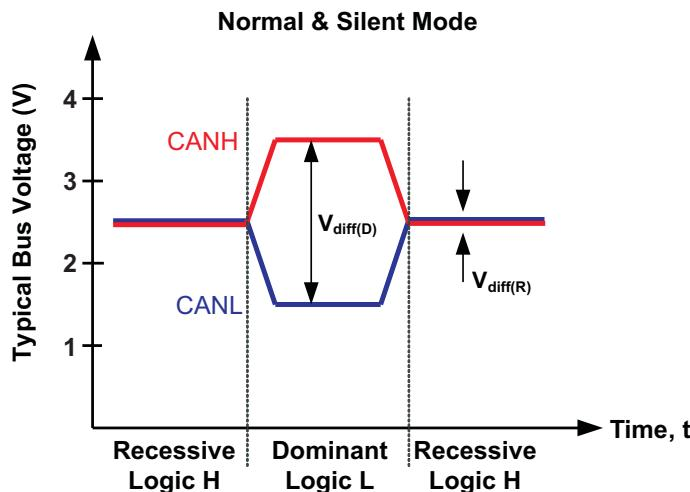
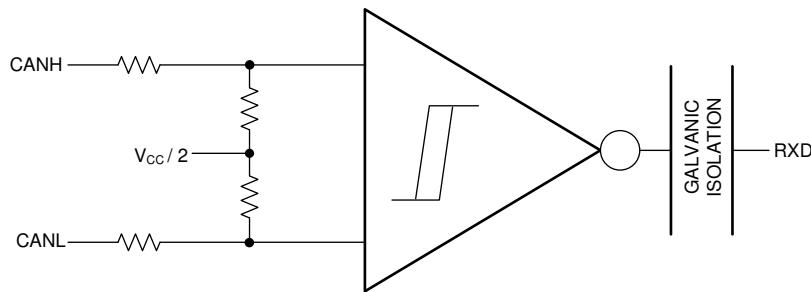

Figure 23. Bus States (Physical Bit Representation)
Figure 24. Simplified Recessive Common Mode Bias and Receiver
The CAN bus has two states during operation: *dominant* and *recessive*. A dominant bus state, equivalent to logic low, is when the bus is driven differentially by a driver. A recessive bus state is when the bus is biased to a common mode of  $V_{CC} / 2$  through the high-resistance internal input resistors of the receiver, equivalent to a logic high. The host microprocessor of the CAN node will use the TXD pin to drive the bus and will receive data from the bus on the RXD pin. See Figure 23 and Figure 24.
(1) H = high level, L = low level, Z = common mode (recessive) bias to  $V_{CC} / 2$ . See Figure 23 and Figure 24 for bus state and common mode bias information.